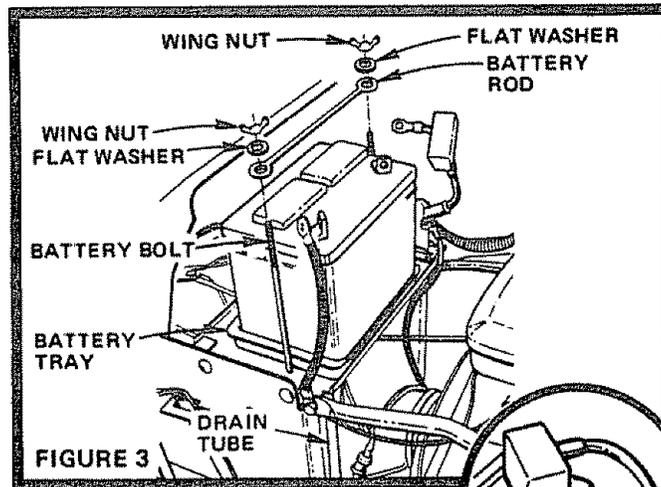

FIGURE 3
- b. Remove tape from Plastic Tray. Make sure Drain Tube (Fig. 3) is fastened to Drain Hole in Battery Tray and Battery Tray is positioned in hole of Battery Support.
- c. Place Battery in Plastic Tray (Battery Terminals to front of Tractor) (Fig. 3).
- d. Insert Battery Bolt into square hole on the left side of Battery Support (Fig. 3). Fasten Battery Rod to Battery Bolt with a Flat Washer and Wing Nut.
- e. Insert remaining Battery Bolt into square hole in R.H. side of Battery Support and fasten Battery Rod with a Flat Washer and Wing Nut (Fig. 3). Tighten Wing Nuts securely.